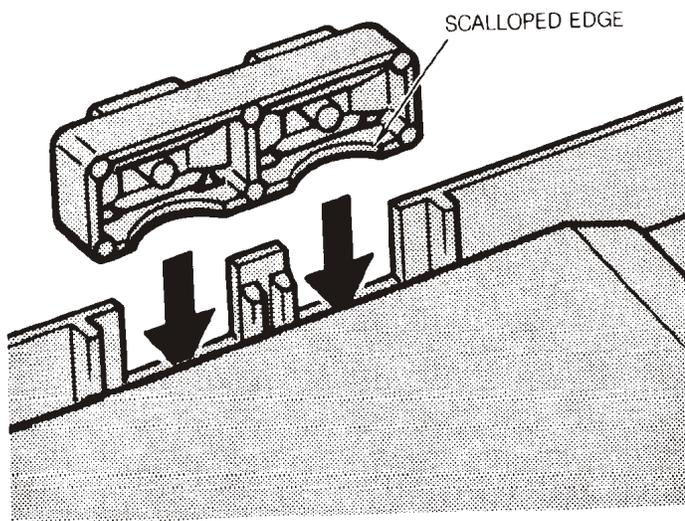

Figure 14
(6) Press action buttons firmly in position. The scalloped edge should be on the **BOTTOM, FACING INWARD**. The buttons will only fit one way. Refer to Figure 14 below.